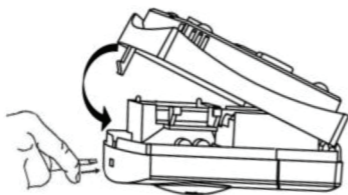
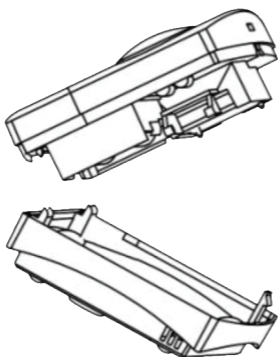

Fig.1
Fig.2
1. Remove the front cover using a flat screwdriver (Fig.1) and separate from back plate (Fig.2).